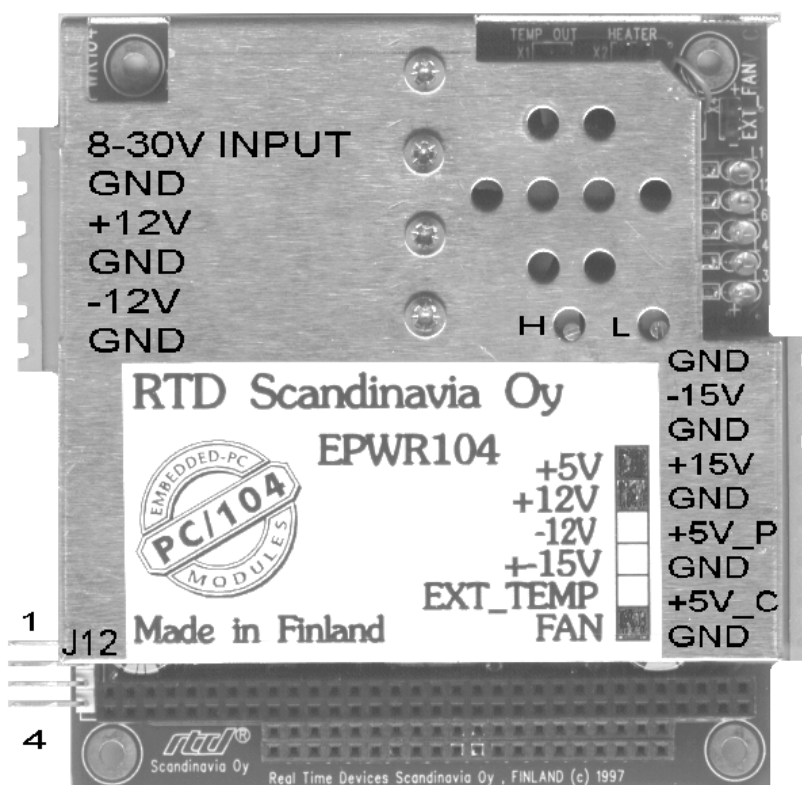

Fig. 1-3a EPWR104HR-3F power supply power connections
- Fig. 1-3a:** EPWR104HR-3F Power supply power connections